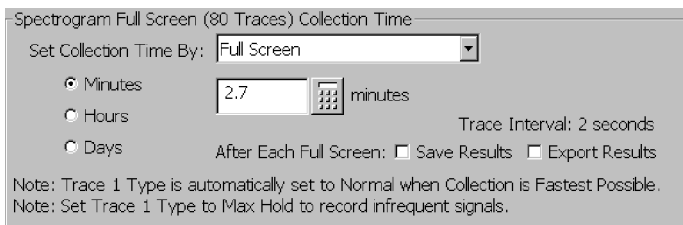

Figure 3-17: The Spectrogram Full Screen (80 traces) Collection Time area
2. Tap the **Spectrum** tab. Figure 3-17 shows the Spectrogram Full Screen (80 traces) Collection Time area.